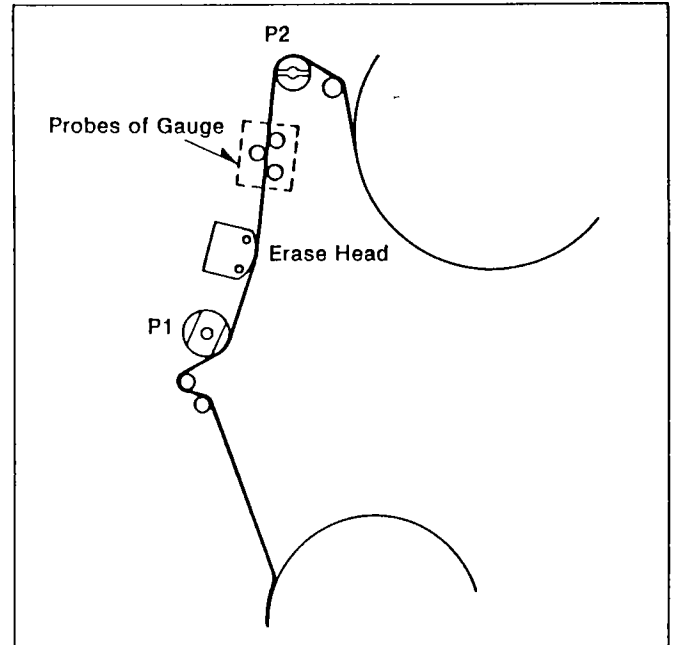

Figure M28 Measurement of Back Tension
2. Insert the Back Tension Meter into the path of a tape, and measure the back tension to be within specification as shown in Figure M28.